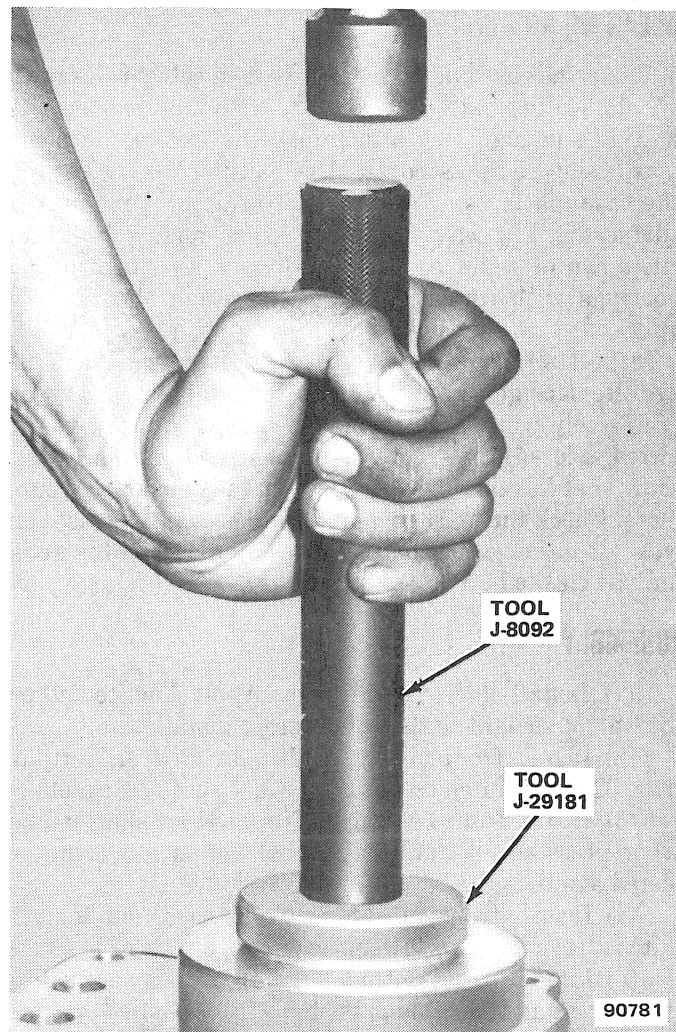

Fig. 2D-84 Front Output Shaft Front Bearing Race Installation
(34) Install front output shaft yoke. Tighten new locknut to 120 foot-pounds (163 N•m) torque. Use Tool J-8614-01 to hold yoke while tightening nut.
(35) Insert front and rear output shaft shift forks into case (fig. 2D-85).
(36) Install front output shaft shift rod poppet ball and spring in front bearing cap.
(37) Compress poppet ball and spring and install front output shaft shift rod part way in case.